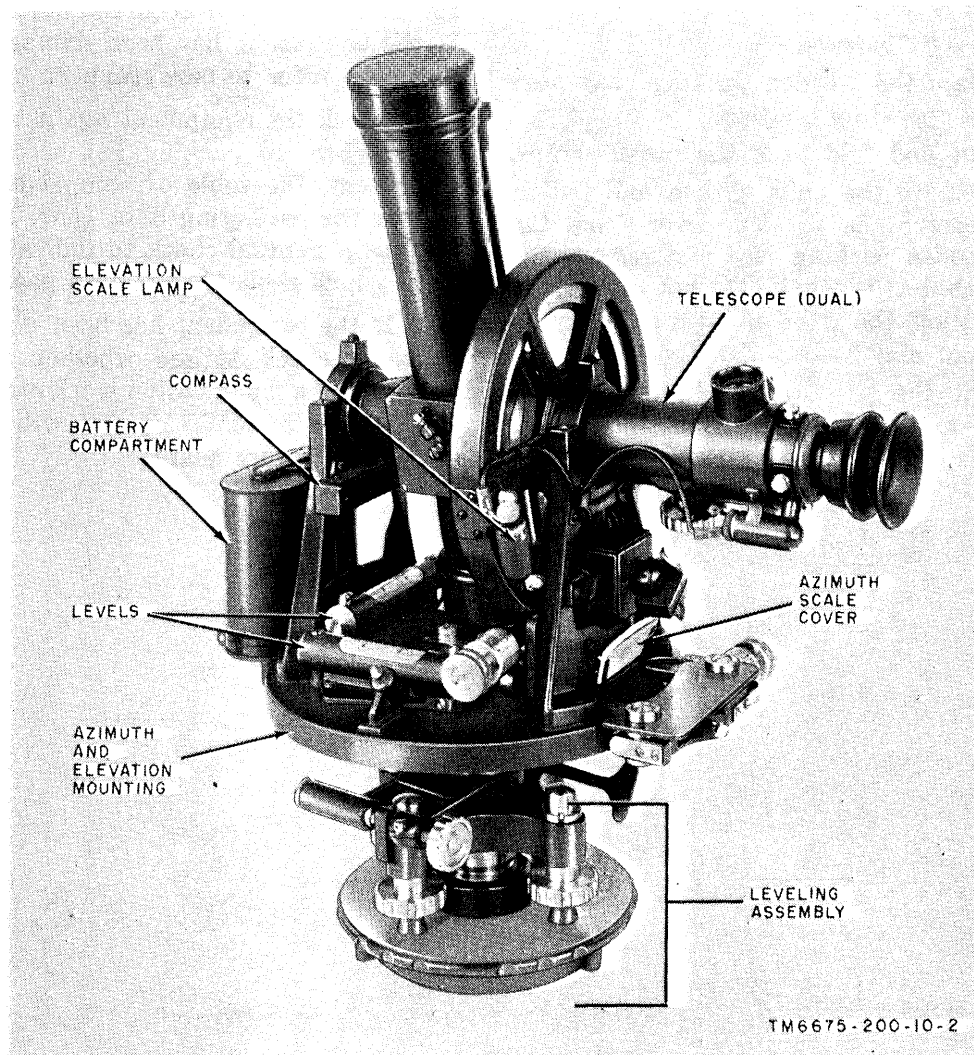
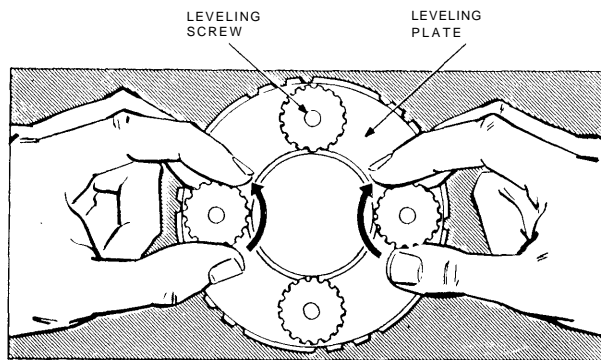

Figure 2. Theodolite, view of telescope, azimuth and elevation mounting, and leveling assembly.
Figure 6. Leveling screw adjustment.
a. The theodolite (fig. 2) consists of a dual telescope, an azimuth and elevation mounting, and a leveling assembly. The operating controls are located on the telescope, the azimuth mounting, and the elevation mounting. The orientation controls are located on the leveling assembly. The battery compartment is located on the azimuth and elevation mounting.
Compass (fig. 2).	Indicates direction of magnetic north.
Levels (fig. 2).	Indicate when theodolite is level.
c. Rotate the azimuth and elevation mounting (fig. 2) until the long axis of each level is parallel to a diametrically opposite pair of leveling screws (fig. 6).
f. Adjust a pair of diagonally opposite leveling screws (fig. 6) until the bubble of the level (fig. 2) that has its long axis parallel to this pair is centered.
- (1) Place the thumbs on the left cling screws as shown in figure 6.
- (2) Move the thumbs either toward or away from each other simultaneously.
- (3) The bubble will move in the direction of the left thumb.
- (4) The screw pressure on the leveling plate should always be sufficient to prevent the upper portion from shifting or rocking.